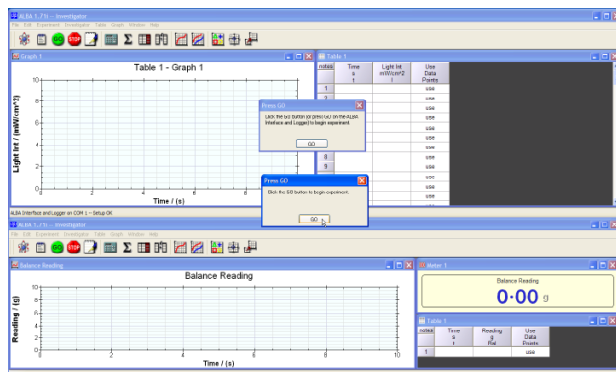

Figure 101
Step 8: Click the Go, Figure 101. Both instances of the software will start the data capture at the same time.